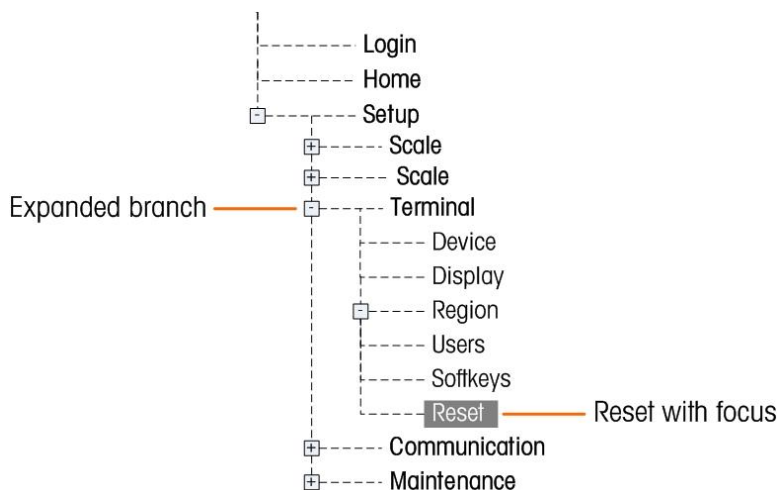

Figure 3-29: Setup Menu Tree – Reset
1. Press the SETUP softkey . The setup menu tree (Figure 3-29) displays.